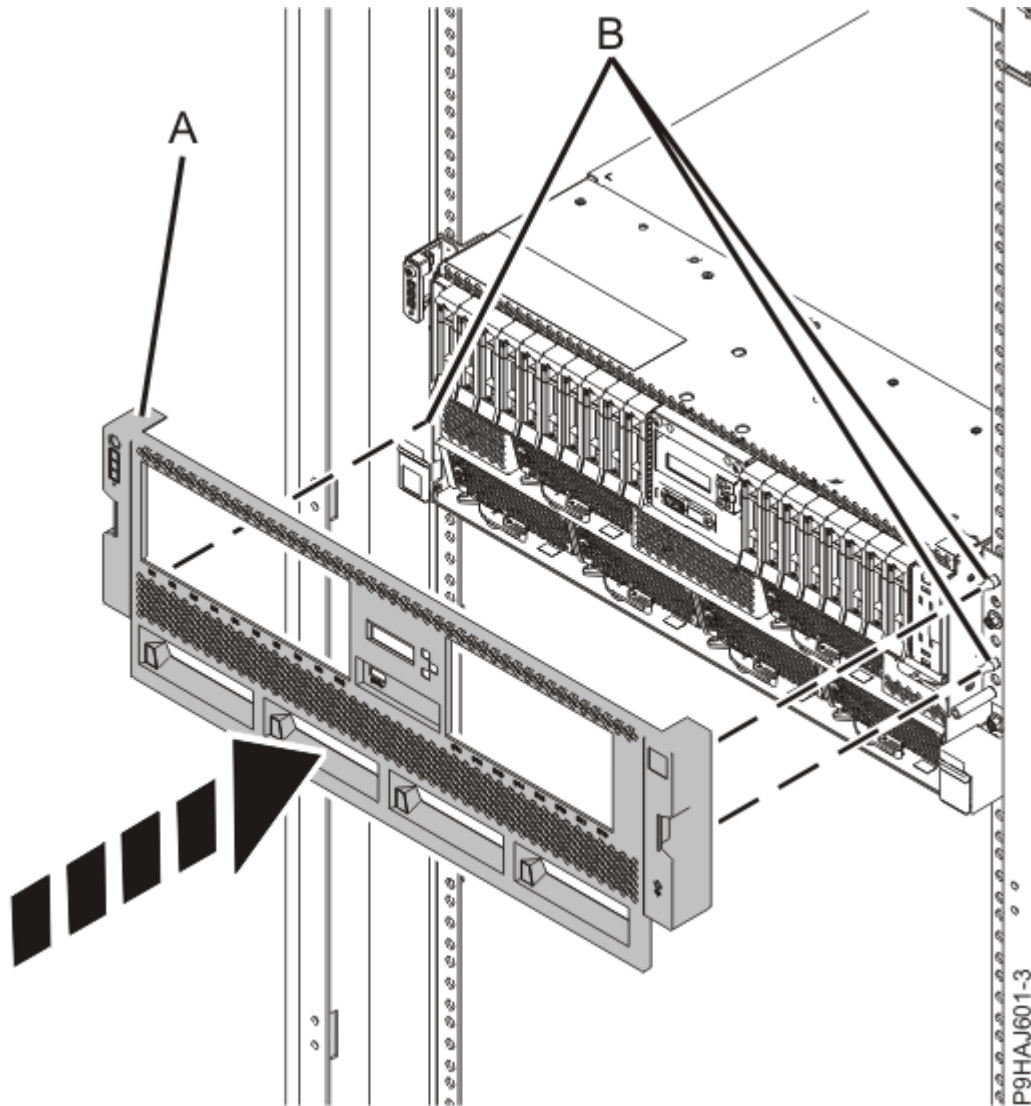

Figure 14. Installing the front cover
2. For a rack-mounted system, gently push the front cover **(A)** in until the cover snaps into place. The cover has indentations where you can hold it more easily. Use the alignment pins **(B)** to secure the cover to the system as shown in Figure 14 on page 29.